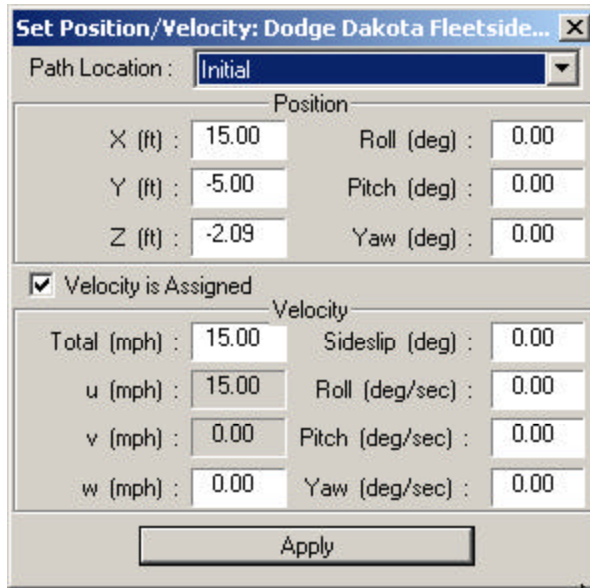

Figure 5-33: Setting Initial Position / Velocity of Dodge Pickup
- Enter the following values in the appropriate boxes of the *Position/Velocity, Initial* dialog. See Figure 5-33.